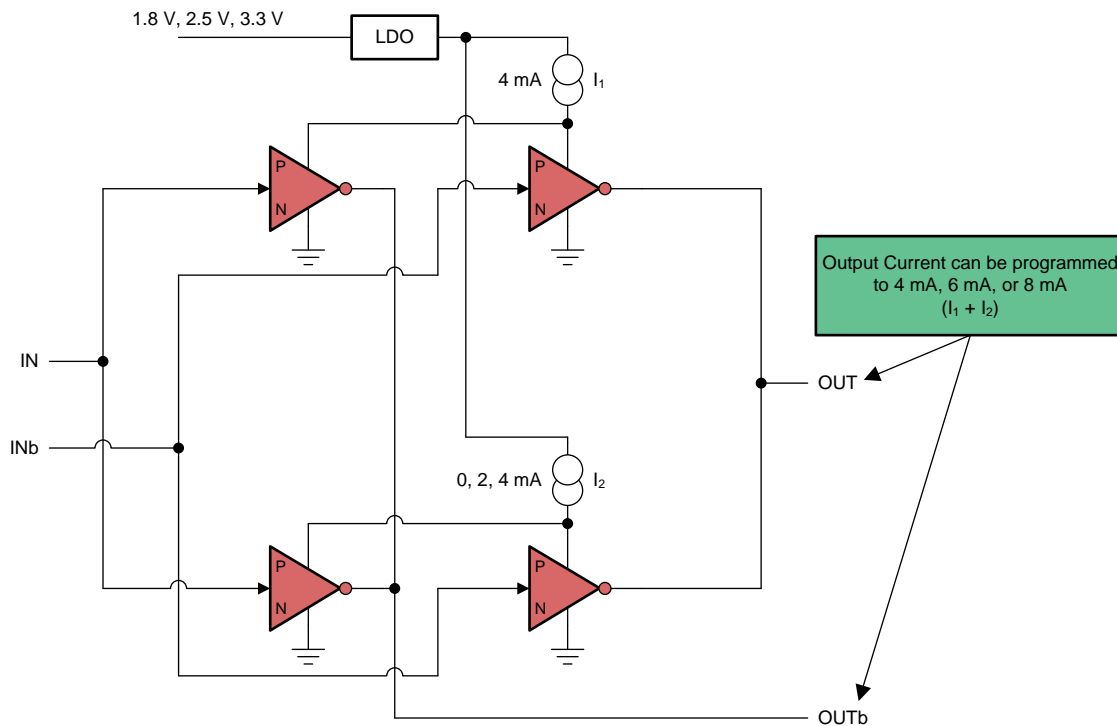

Figure 62. Structure of AC-LVDS, AC-CML, and AC-LVPECL Output Stage
The AC-LVDS, AC-CML, and AC-LVPECL output structure is given in Figure 62 where the tail currents can be programmed to either 4-mA, 6-mA, or 8-mA to generate output voltage swings that are compatible with LVDS, CML or LVPECL respectively. Since this output structure is GND referenced, the output supplies can be operated from 1.8-V, 2.5-V or 3.3-V and offer lower power dissipation compared to traditional LVDS, CML, or LVPECL structures without any impact on jitter performance or other AC or DC specifications. Interfacing to LVDS, CML or LVPECL receivers are done with just an external AC-coupling capacitor for each output. No source termination is needed since the on-chip termination is automatically enabled when selecting AC-LVDS, AC-CML, or AC-LVPECL for good impedance matching to 50-ohm interconnects.
3. The latency is deterministic and its variation is no more than 1 VCO clock cycle and an example scenario is illustrated in Figure 62.